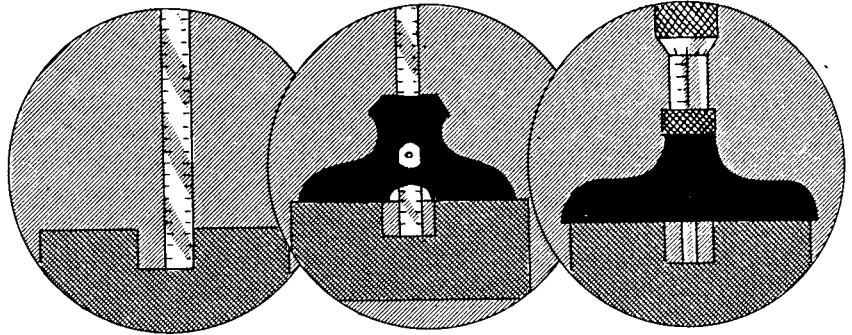

FIG. 453
11. Stop the machine and test the depth of the slot with a scale, a depth gage, or a micrometer depth gage (Fig. 453).